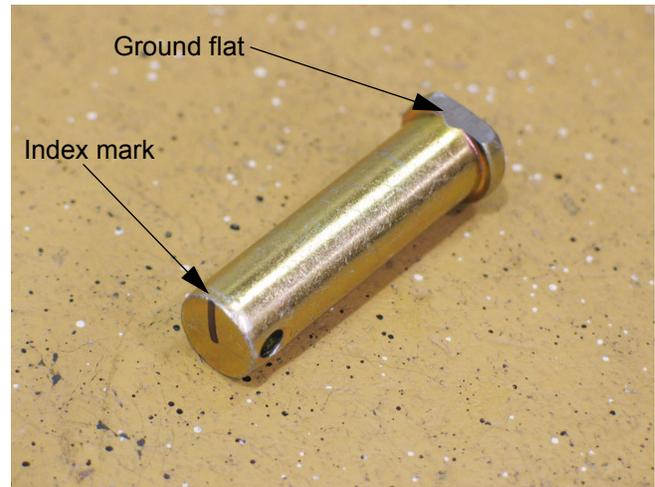

Figure 12.31
12.31. Installation notes: See Figure 12.31.